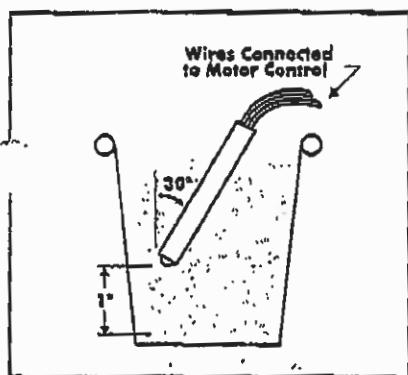

Figure 2h
3. Remove probe from the reservoir and place in a paper cup filled with ordinary tap water. Suspend the end of the probe an inch above the bottom of the cup at an angle of approximately 30 degrees and retest panel. (Fig. 2h)